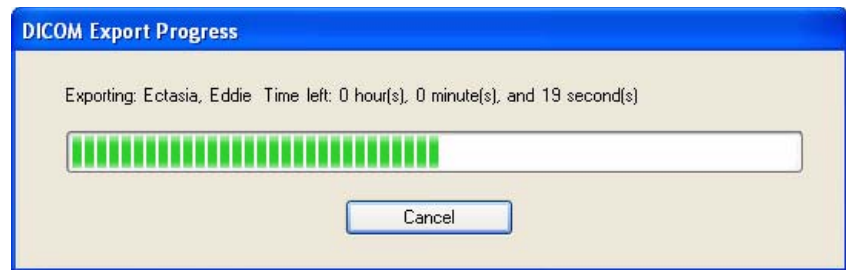

Figure 11-29 DICOM Export Progress Dialog
3. Select **OK** on the Search Preview screen to begin the export process. A DICOM Export Progress dialog will be displayed showing the export progress (Figure 11-29).